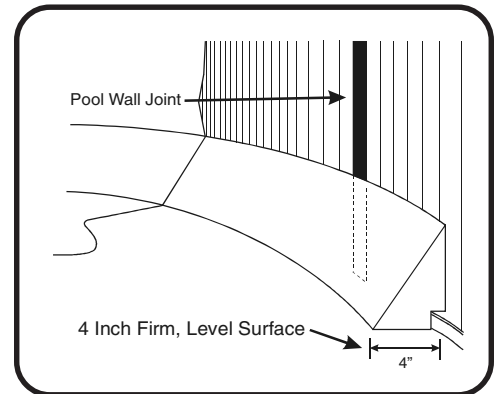
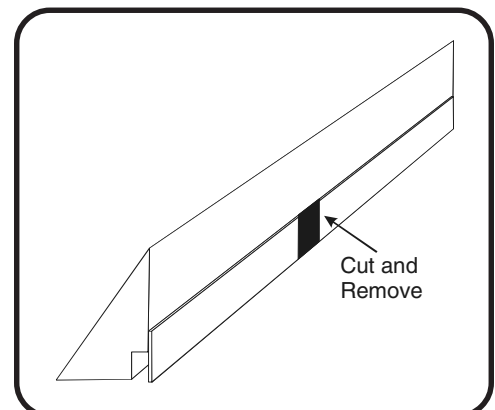

Figure 1
Figure 3
**Step 2:** Make sure you have a 4 inch wide firm, level surface around the entire inside of the pool wall. (See Figure 1)
**Step 3:** Locate the pool wall joint. Determine if the pool wall joint seam projects inside the pool and will interfere with the plastic strip on the back of the cove. (See Figure 1) If there will be no interference, skip to Step 4. If there is interference, cut and remove a 3 inch section from the center of the plastic backing strip. Using a fine tooth saw or tin snips, cut only the plastic strip. Remove a 3 inch section of this strip by pulling the bottom of the strip away from the foam. (See Figure 3)
**Step 6:** Locate the first backbend along one side of the pool. The first piece of pool cove will be installed at this point. It will be necessary to cut and remove a six inch section from the center of the plastic backing strip. Using a fine tooth saw or tin snips, cut only the plastic strip. Remove a 6 inch section of this strip by pulling the bottom of strip away from the foam. (See Figure 3)